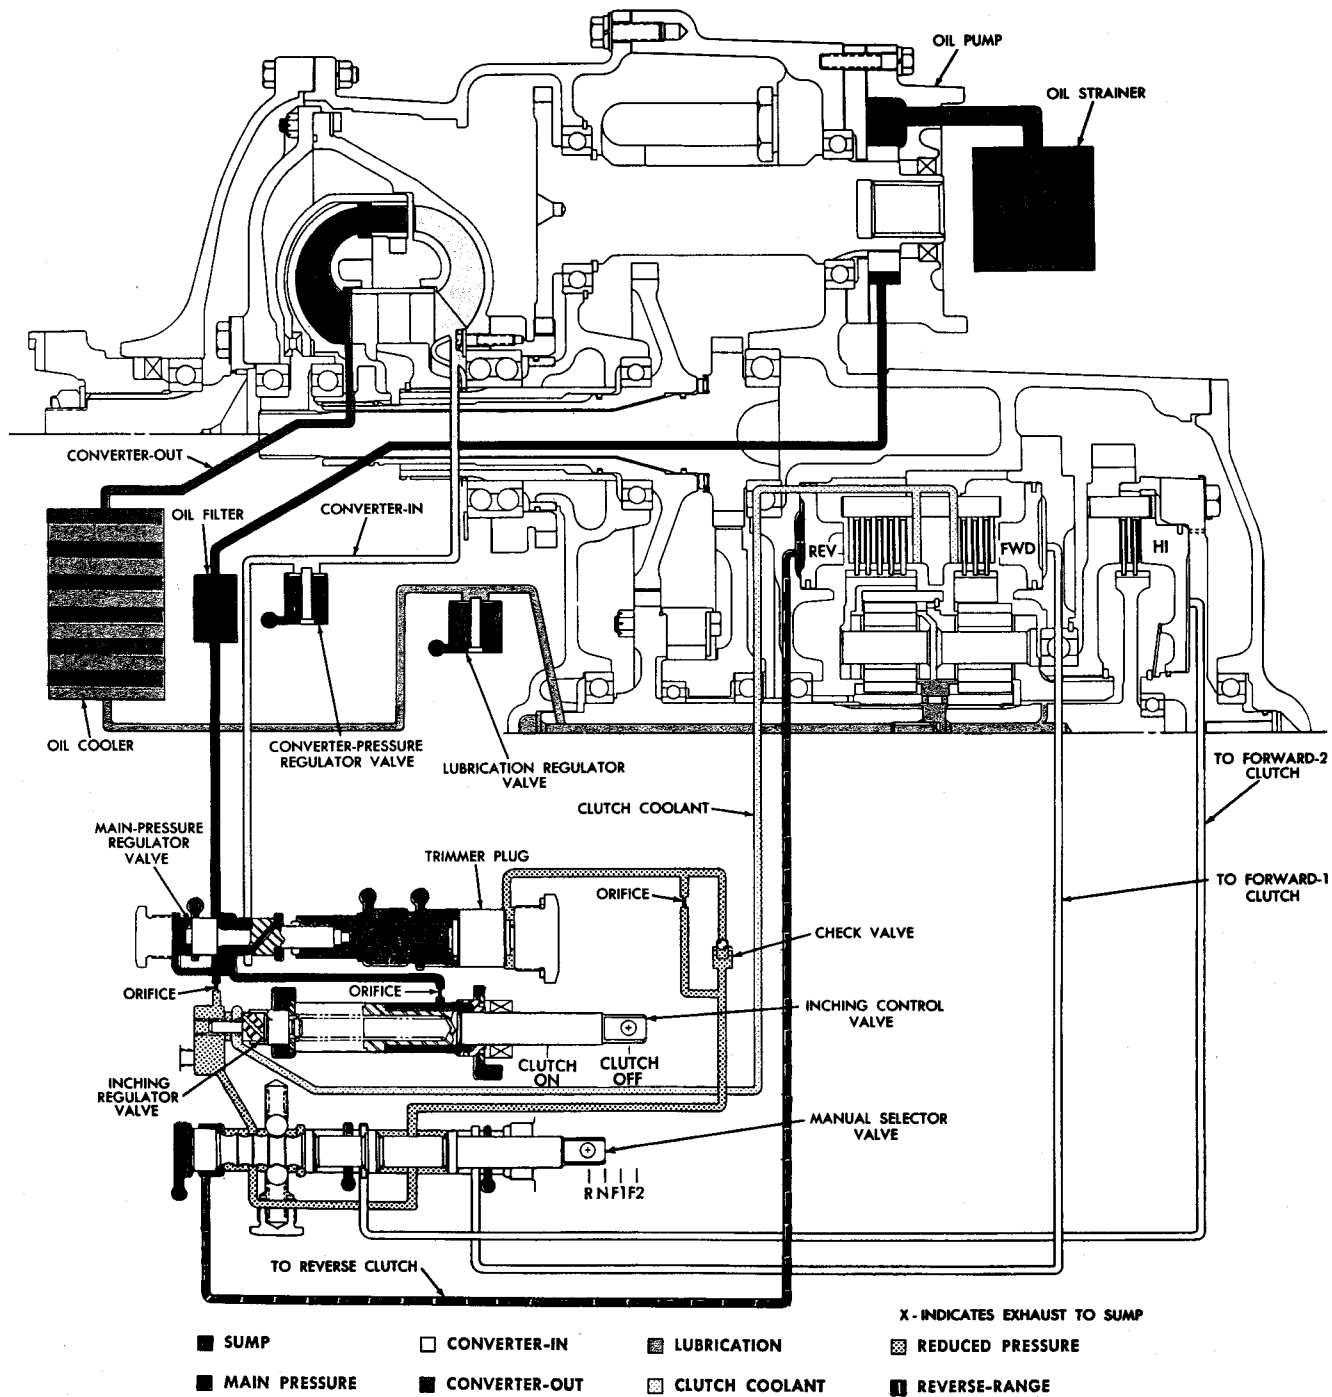

Fig. II-4. Hydraulic action in reverse range, inching control valve applied—schematic diagram
(1) Fig. II-4 illustrates the hydraulic system's action in reverse, with the inching control valve applied. The hydraulic system acts as described in para 15a through g, above, except for oil flow to the reverse-range clutch.
(2) The range selector valve is in reverse-range position. This directs oil to the reverse-range clutch, applying the clutch.
(3) When the inching control valve is applied (manually moved toward the right), the force of the inching regulator valve spring is reduced. Main pressure against the left-end of the regulator valve moves it rightward. This movement uncovers a port which allows oil to flow into the clutch coolant passage. The amount of oil escaping into the coolant passage is determined by the position of the inching control valve. When the inching control valve is fully rightward, the coolant passage is completely uncovered; when partially rightward, the passage is partially uncovered. When the passage is partially uncovered, the inching regulator valve assumes a position that results in a balance between clutch apply pressure and inching regulator valve spring force.
(4) When the clutch coolant passage is completely uncovered, sufficient oil can flow through it to reduce clutch apply pressure to a negligible value. Clutch apply pressure falls because main pressure is restricted by the orifice below and at the left of main pressure regulator valve. When clutch apply pressure falls, the trimmer valve plug moves rightward and main pressure decreases. Thus, depending upon the position of the inching control valve, clutch apply pressure can range from very low to maximum.